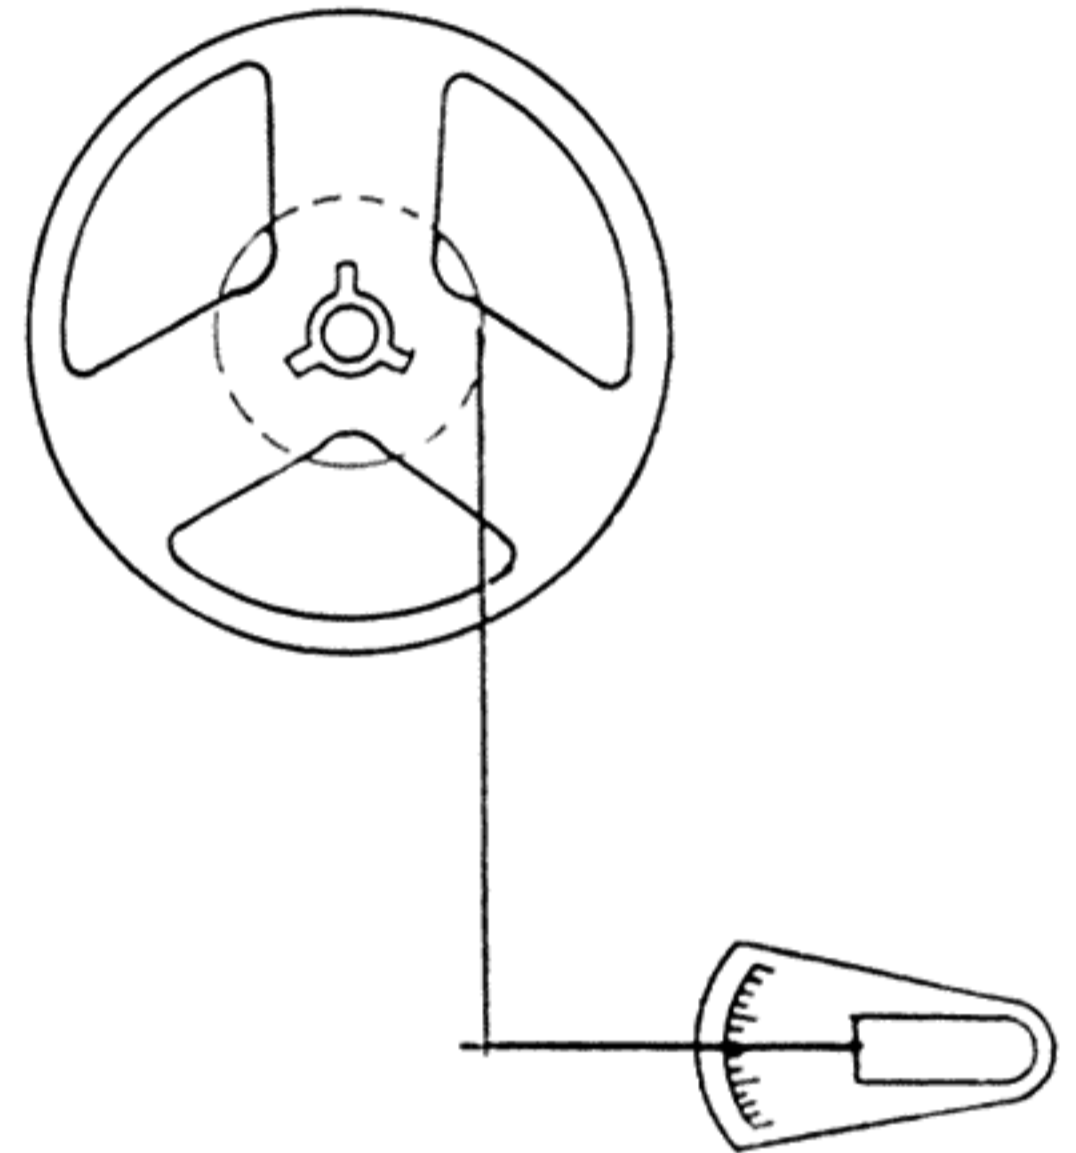

Fig. 9
(4) Rewinding Torque (Fig. 9)
Measure it using 5 inches reel and tension gauge in such a way as shown in Fig. 9. If the torque is too strong, it will cause worse flutter or increase of the current consumption, in this case make the wheel spring (T402 68) looser to readjust for normal pressure. On the contrary, if the torque is too poor, tape will not be rewound up completely, then make the spring stronger.